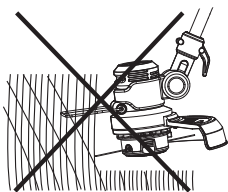
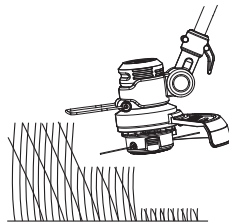

Fig. 11
Fig. 12
6. Ensure the cutting device remains clean and free from off-cuts that may cause it to jam. Check regularly. Release the on/off switch (2) and disconnect the product from the power supply before checking.
7. Trim longer grass in stages; do not cut long grass in one cut (Fig. 11). For the best results, cut longer grass in steps (Fig. 12).